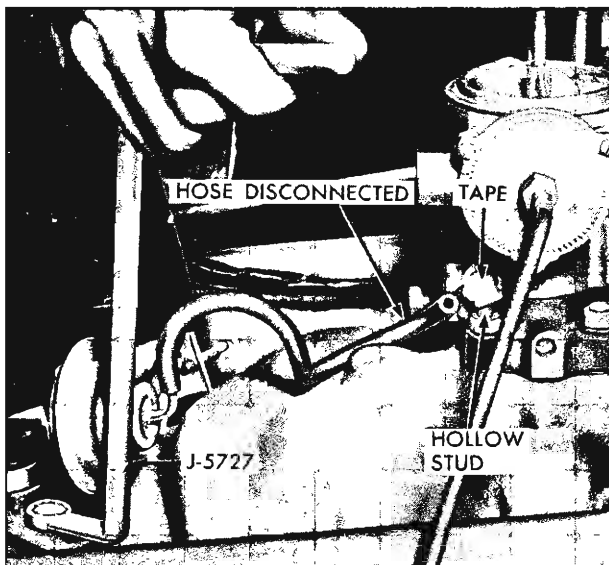

Fig. 30—Spark Vacuum Hose Disconnected for Timing
- c. With vacuum spark hose removed, cover hollow stud or vacuum advance unit with a piece of tape (fig. 30) or a suitable covering.